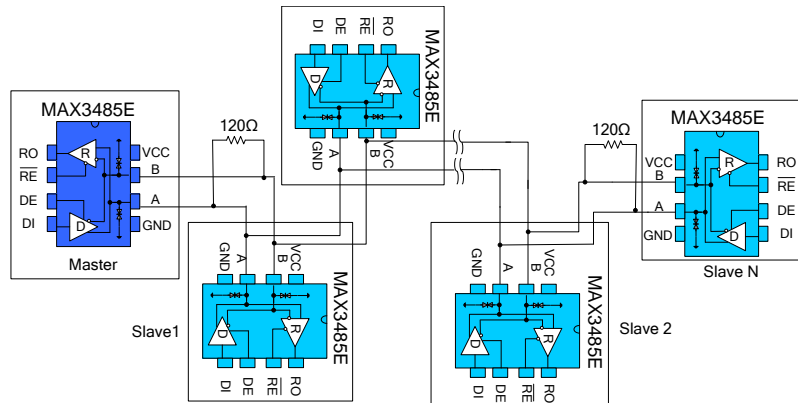

Figure10 Hand in hand RS485 half duplex communication network
4.2 Hand in hand Networking: also known as daisy chain topology, is the standard and specification of RS485 bus wiring, and is the RS485 bus topology recommended by TIA and other organizations. The wiring mode is that the main control equipment and a plurality of slave control equipment form a hand-held connection mode, as shown in Figure 10, and the hand-held mode is no branches. This wiring mode has the advantages of small signal reflection and high communication success rate.